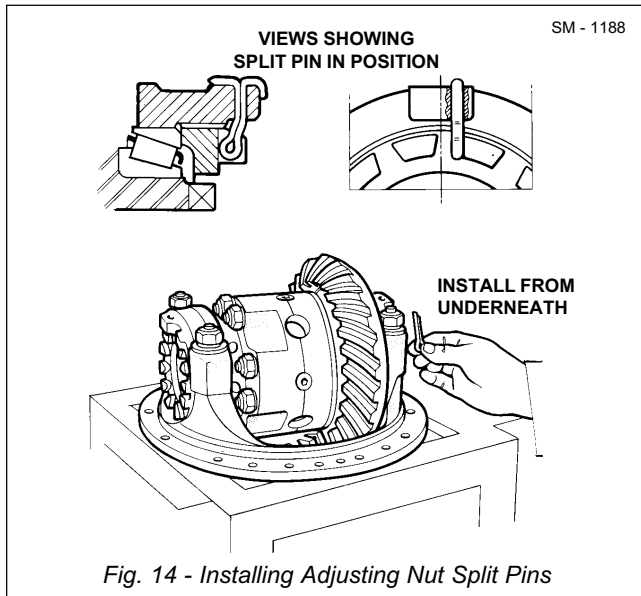

Fig. 14 - Installing Adjusting Nut Split Pins
2. Tap straps (89) and rotate crownwheel (46), then re-check that no axial movement is present.
3. Turn each adjusting nut (51) until nut slots line up with one of the two split pin holes in straps (89). Install two split pins (90) as shown in Fig. 14.
4. Set up dial indicator on crownwheel (46) and check for 'No End Float' condition.